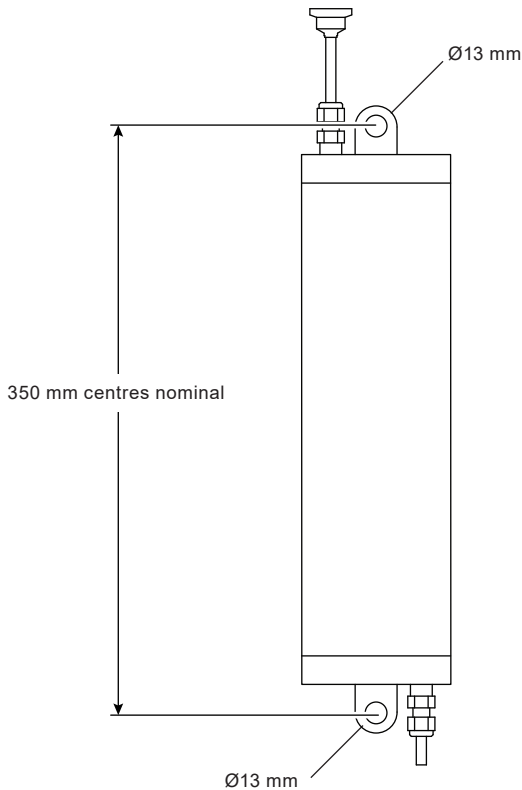

Fig. 2
- The sample cooler must be mounted vertically, using the separate top and bottom mounting brackets and screws (see Figure 2).